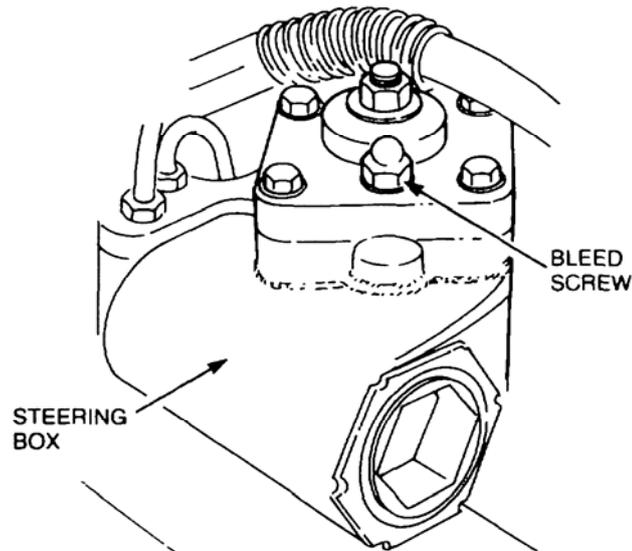

Figure 8 Power Steering Bleed Screw Location
- Slacken the bleed screw in the steering box (refer Figure 8) until fluid is observed at the bleed screw.